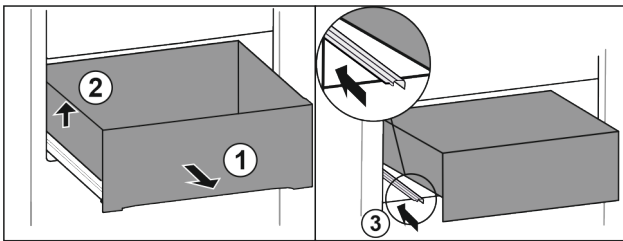

Fig. 89
- ▶ Pull out drawer as far as it will go. Fig. 89 (1)
- ▶ Lift drawer on the left. Fig. 89 (2)
- ▶ Slide in left rail. Fig. 89 (3)